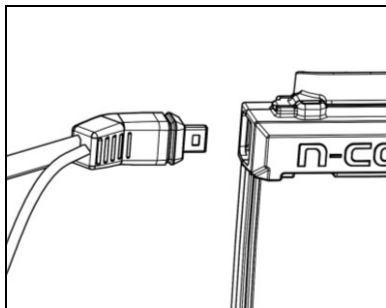

Fig. 5
- Insert the left-hand cable (attached to the keypad) into the port, as shown (Fig. 5).